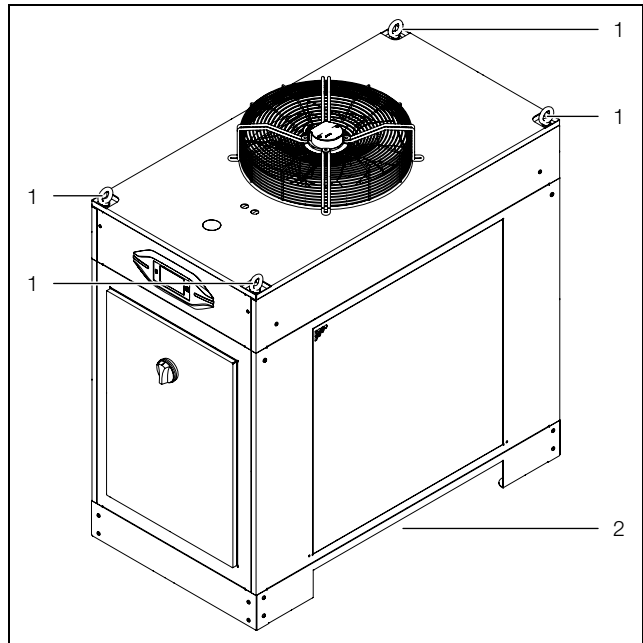

Fig. 18: Transport (illustration shows unit SK 333640x as an example)
- with lifting gear at the eyebolts provided for this purpose (fig. 18, item 1) or
- using a floor conveyor by holding from below and lifting from the side (fig. 18, item 2).